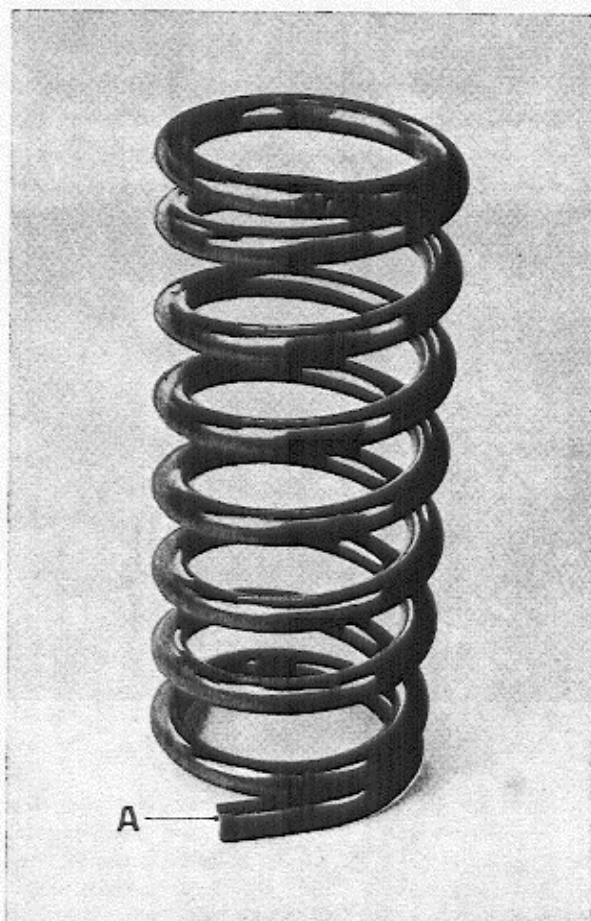

Fig. 4. Front spring
1. Place the spring in the attachment on the control arm. The straight end of the spring (A, Fig. 4) must face downwards.